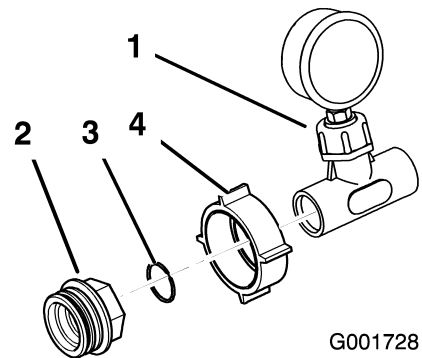

Figure 14
- Install the large plastic nut over the pressure gauge and tee assembly. Install a plastic O-ring and adapter to the assembly as shown in Figure 14.